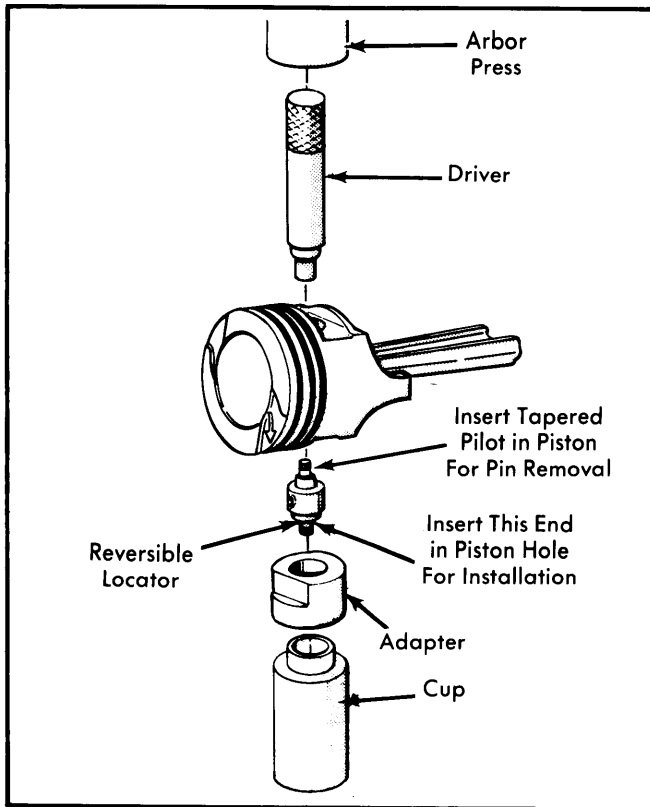

Fig. 11 Removing and Installing Piston Pins
**Removal** — Using an arbor press and removal/installation tool (T68P-6135-A) and adapters, press piston out of connecting rod and piston. See Fig. 11.
2) Position piston on connecting rod as shown. See Fig. 9. Use arbor press to press piston pin into connecting rod and piston. See Fig. 11.